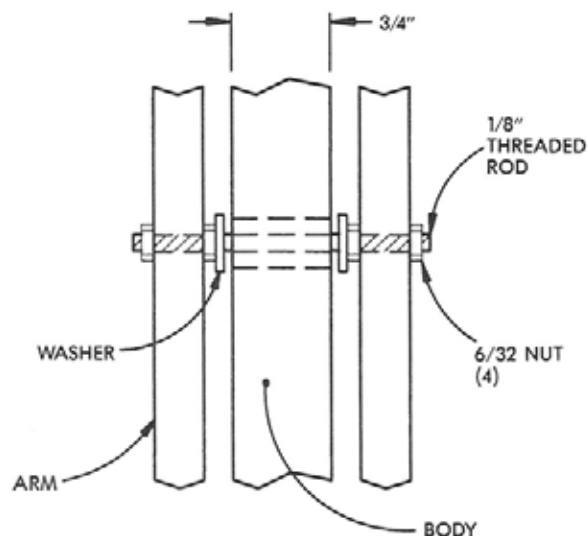

Figure 4-51. Axle detail.
6. Make the axle (Fig. 4-51). It is the threaded rod for double-arm mechanisms. It uses four 6/32 machine nuts on a 1/8 in. rod, 2-1/4 in. long, with ends threaded in about 5/8 in. Turn the nuts firmly onto the axle. Make sure all are tight. Attach the connecting wire and adjust the arms to the proper position.
6. Make the axle with the threaded part slightly longer than usual to accommodate two extra nuts. Attach the arms and nuts to it. Move the arms into an appropriate position, making sure the nuts are tight. Attach the connecting rod and test the arms (see Fig. 4-51 for double-arm mechanism construction).